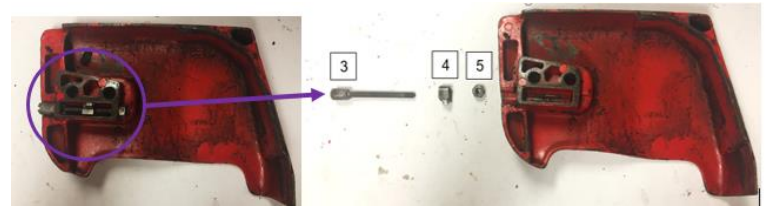

Figure 7: Clutch Cover Tensioner disassembly
Step 2: Flip over Clutch Cover and use a 3/8in wrench to unscrew the Tensioner Nut (5). Remove Tensioner Bolt (3) and manually unscrew Tensioner (4) from Tensioner Bolt. (Figure 7)